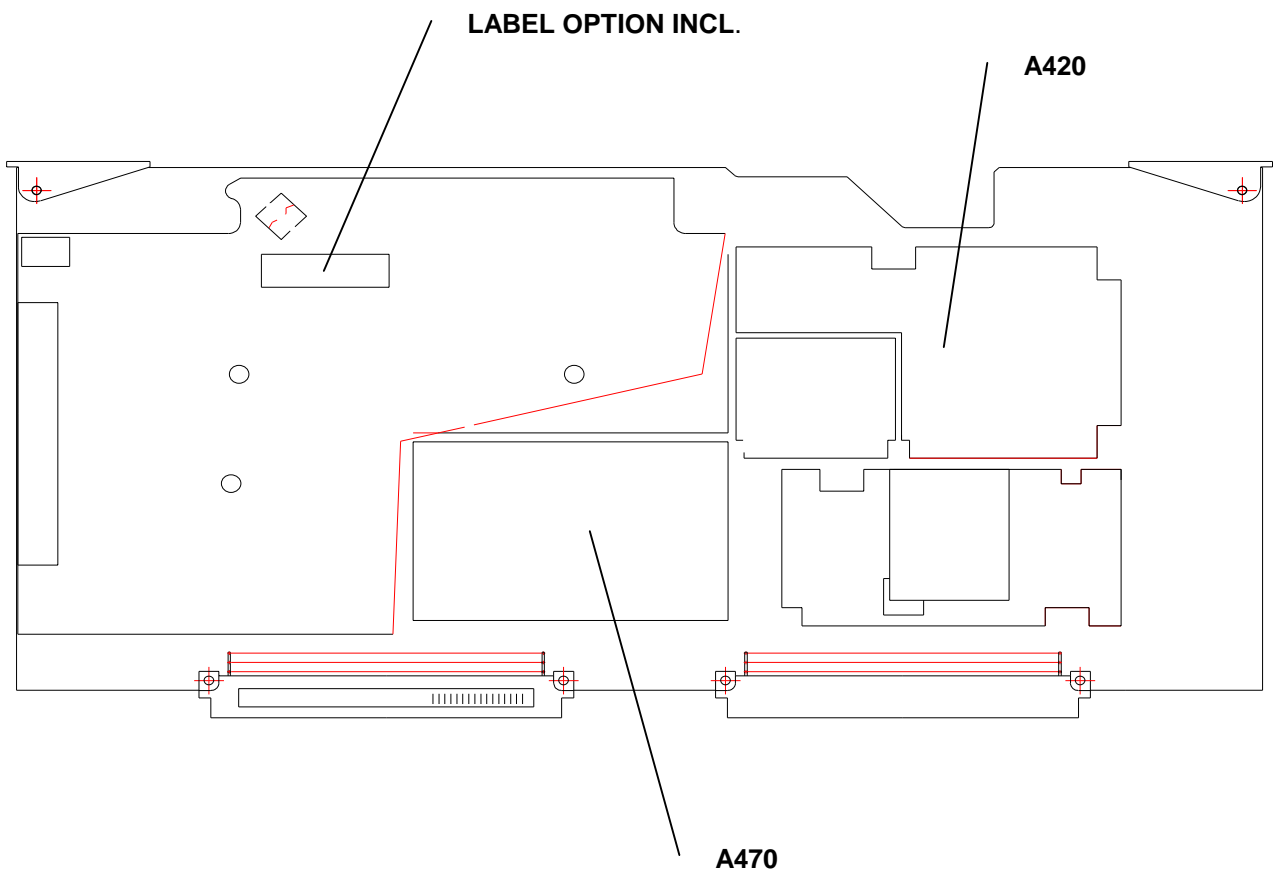

Fig. 4
- Plug option CMU-B52 into slots on CMU-B21 A420 and A470 and affix label (Fig. 4)